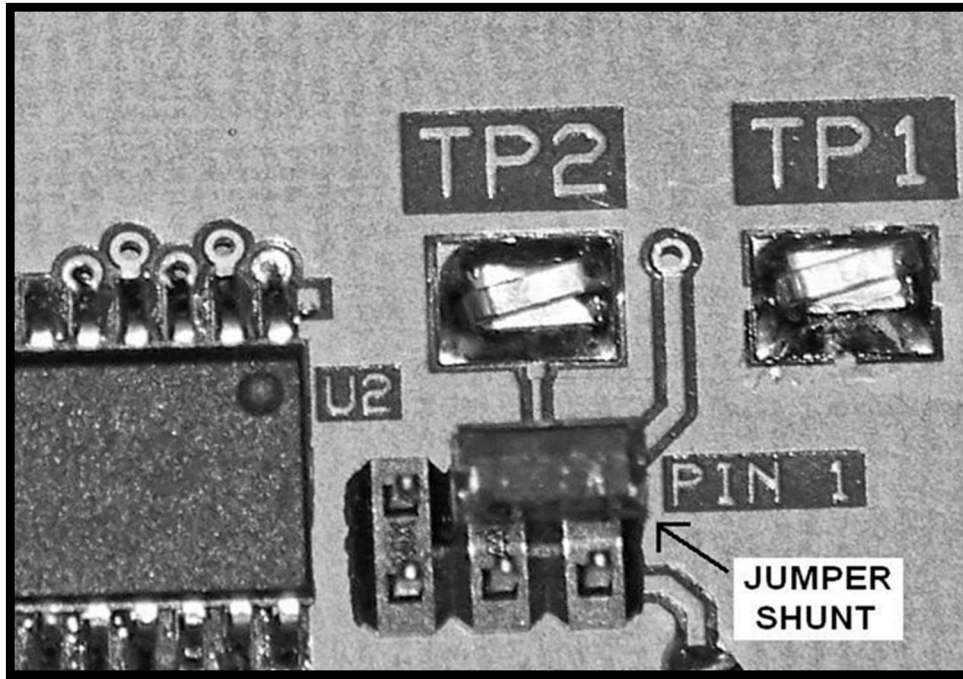

Figure 1
1. Set the DMM to measure frequency. Remove the shorting jumper from the BC-5000 display pcb. See Figure 1.
3. Connect DMM (COM) lead to TP1 on the display circuit board. See Figure 1 for the location of TP1 and TP2.
1. Locate the BC-5000 display circuit board located on the inside of the front panel and REINSTALL the plastic jumper shunt across pins 1 & 3. See Figure 1.